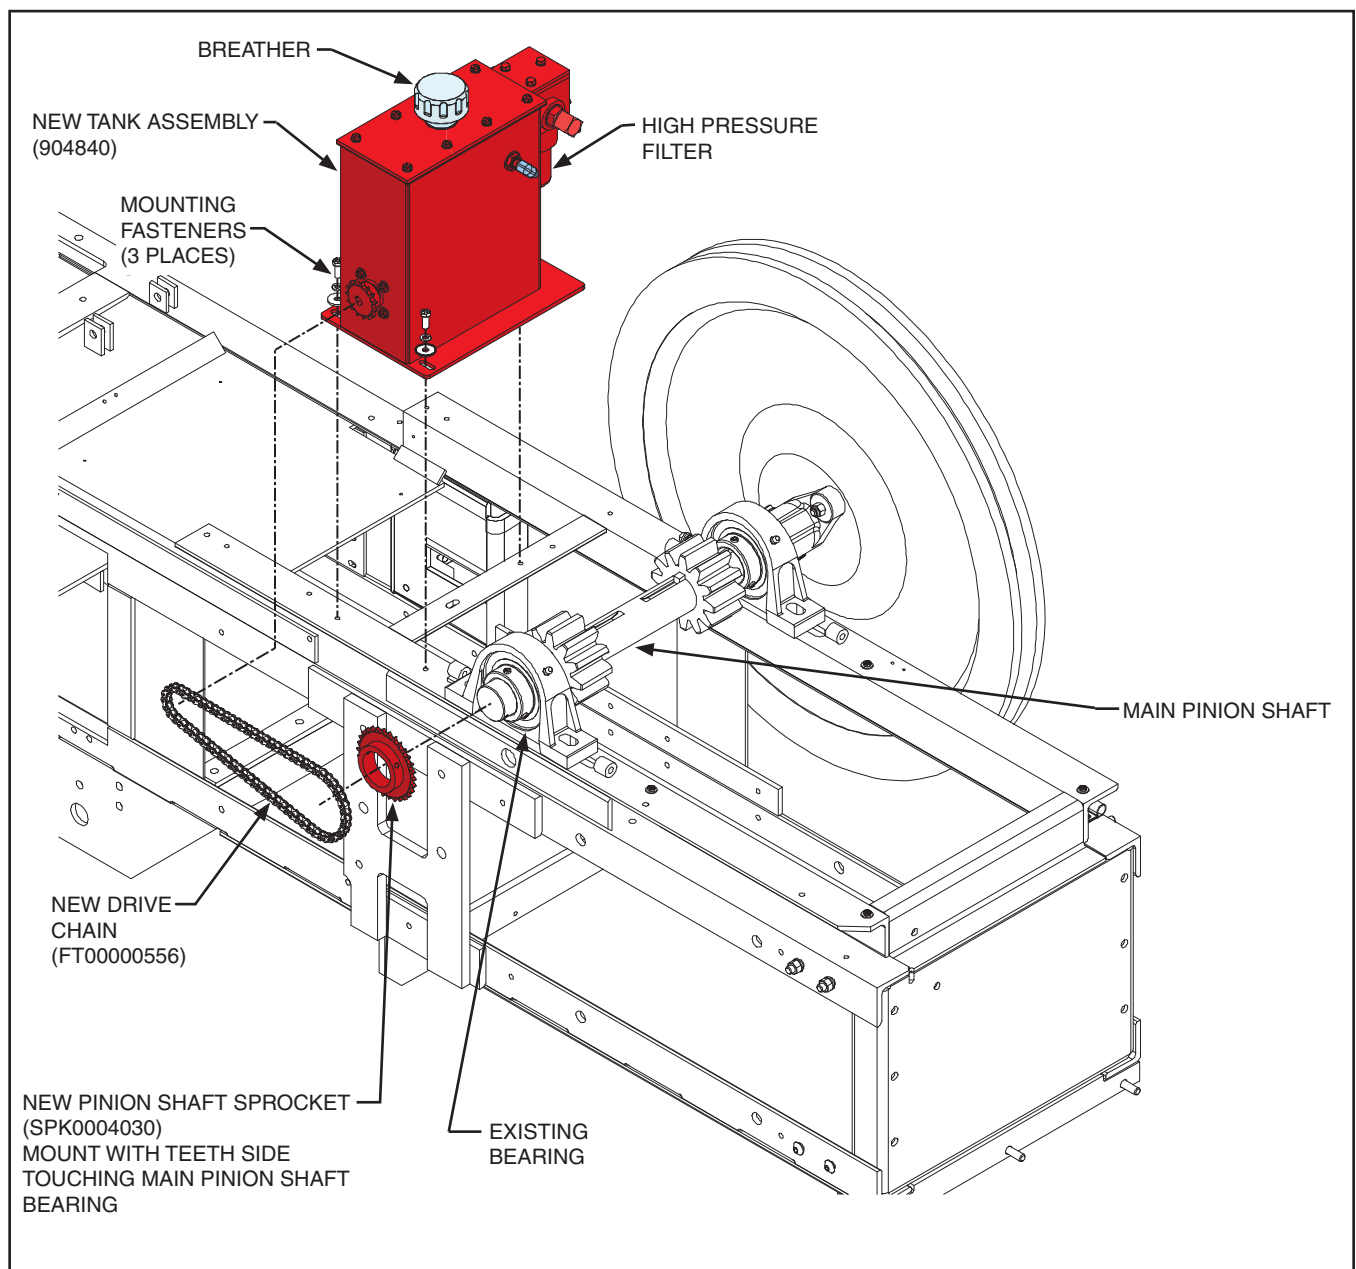

Figure 4
5. Place Tank Assembly on Frame, **but do not fully tighten** (See Figure 4). Install mounting fasteners (3/8"-16 UNC Cap Screw x 1", 3/8" Lockwasher, 3/8" Flat washer).
6. Install the new Pinion Shaft Sprocket on the existing Main Pinion Shaft (See Figure 4). When installing the sprocket, place the teeth side of the sprocket up against the Main Pinion Shaft Bearing as shown. The Sprocket should be touching the Bearing.
8. Place the 1/2" Pitch Chain Assembly (P/N FT00000556) over the two (2) sprockets. Use the provided connector and offset links as needed so that the chain can be properly tightened within the adjustment range of the Tank Assembly. (See Figure 4)
14. Remove the breather (See Figure 4) from the top of the Reservoir Assembly, and use the opening to fill the hydraulic reservoir with 3 gallons of hydraulic oil (Mobil Hydraulic Oil 424 or equivalent).